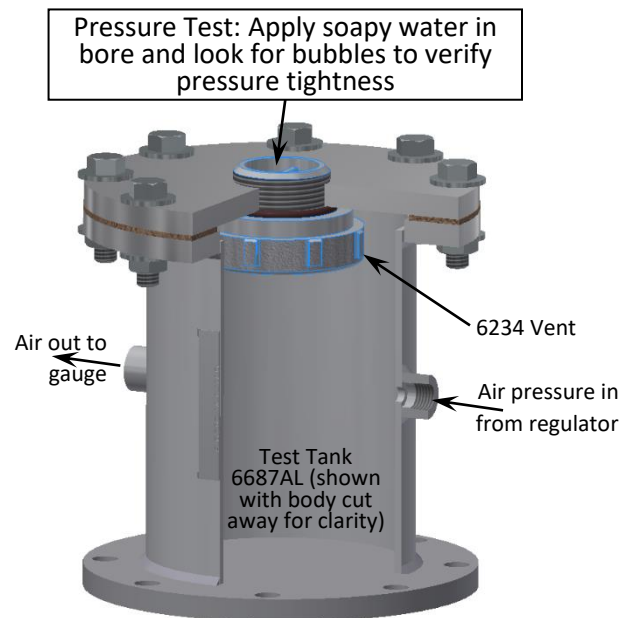

Fig. 3
- 5.3.1 Install vent as shown in figure 3 into test tank.